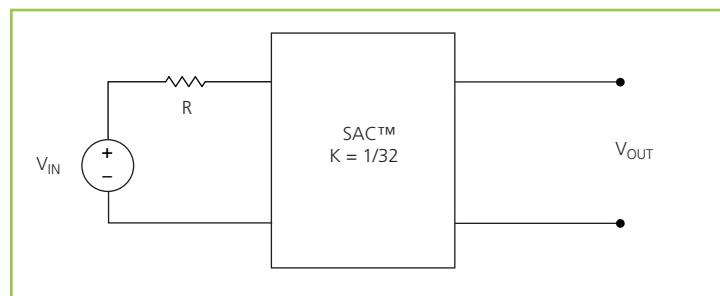

Figure 15 — $K = 1/32$ Sine Amplitude Converter™ with series input resistor
The use of DC voltage transformation provides additional interesting attributes. Assuming that $R_{OUT} = 0 \Omega$ and $I_Q = 0 A$, Eq. (3) now becomes Eq. (1) and is essentially load independent, resistor R is now placed in series with V_{IN} as shown in Figure 15.
Assuming that $R = 1\ \Omega$, the effective R as seen from the secondary side is $0.98\ m\Omega$, with $K = 1/32$ as shown in Figure 15.